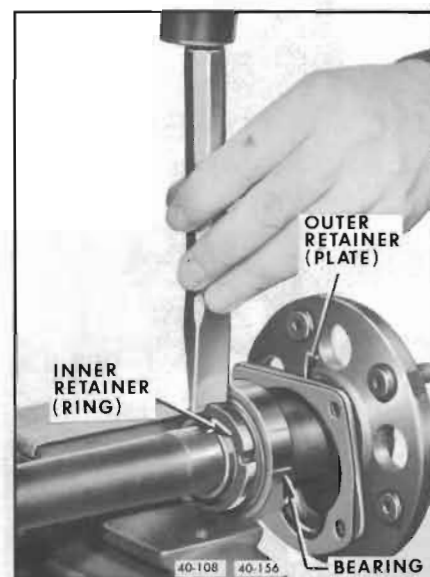

Figure 40-108—Removing Axle Shaft Bearing Retainer
1. Nick bearing retainer in 3 or 4 places with a chisel deep enough to spread ring. Retainer will then slip off. See Figure 40-108.